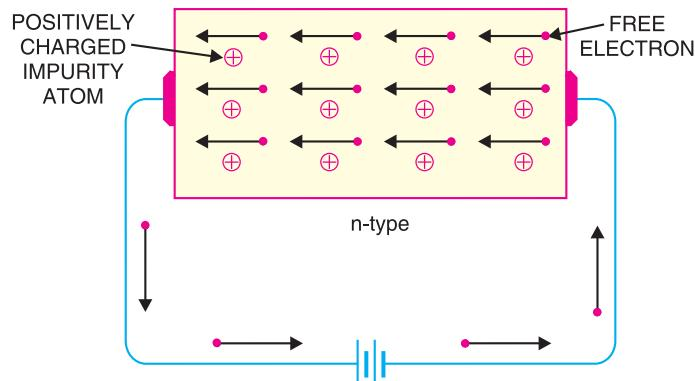

Fig. 5.13
**n-type conductivity.** The current conduction in an *n*-type semiconductor is *predominantly* by free electrons *i.e.* negative charges and is called ***n*-type** or **electron type conductivity**. To understand *n*-type conductivity, refer to Fig. 5.13. When p.d. is applied across the *n*-type semiconductor, the free electrons (donated by impurity) in the crystal will be directed towards the positive terminal, constituting electric current. As the current flow through the crystal is by free electrons which are carriers of negative charge, therefore, this type of conductivity is called negative or *n*-type conductivity. It may be noted that conduction is just as in ordinary metals like copper.